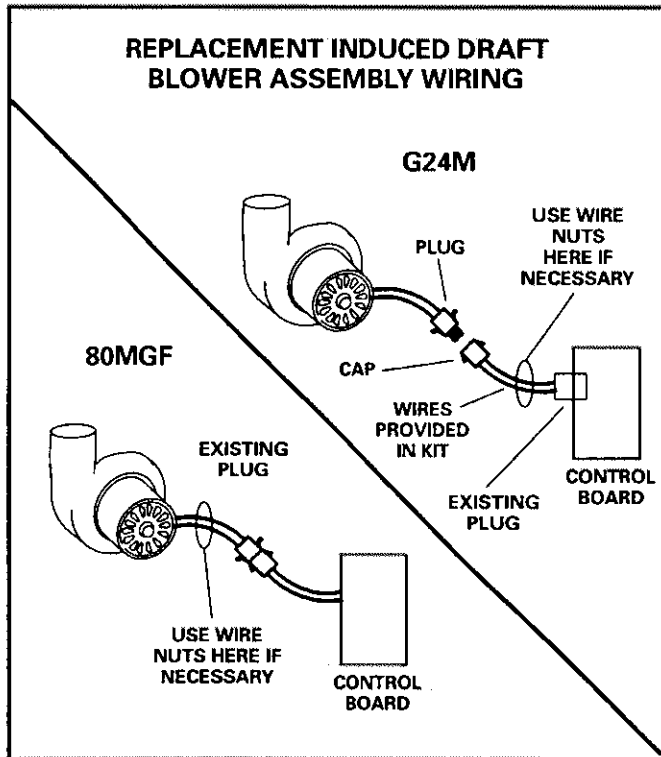

FIGURE 2
- 14– *G24M Units* –– Use provided adapter and wires as shown in figure 2 to run wires from induced draft blower to control board. If existing wires were cut, use provided wire nuts to splice wires.